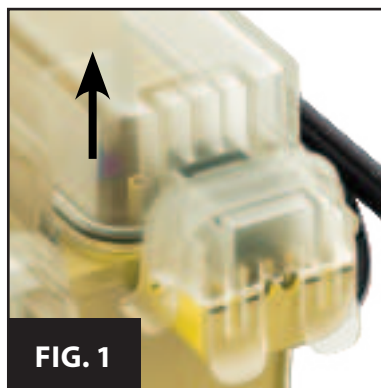

FIG. 1
3. Open the left side of both lids first. Then open the right side lid. (Fig.1)